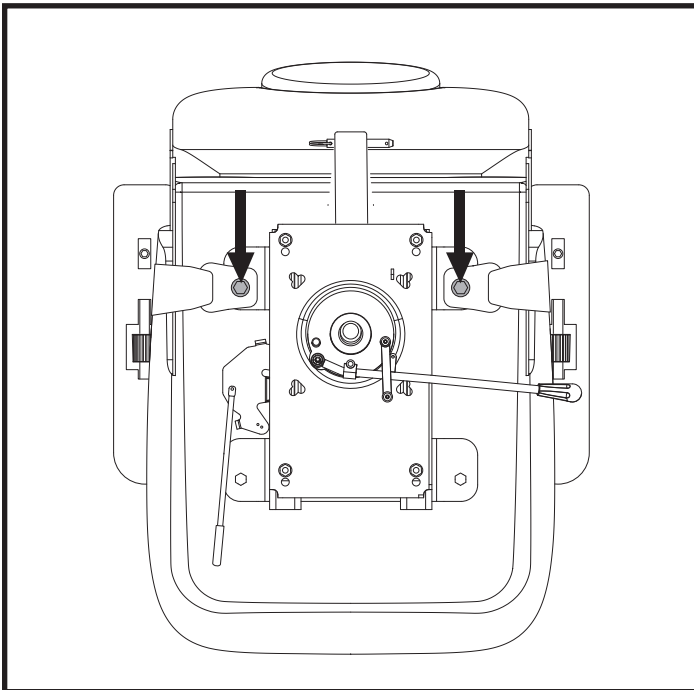

Figure 16. Positioning Belt Bolts
2. Place the seat upside down so that you can see the bottom of the seat base. See figure 16.